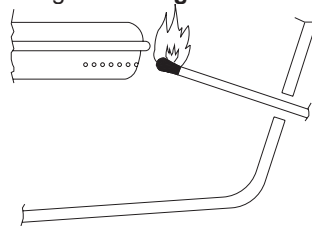

Figure 21
4. Insert a burning long wooden match through the lighter hole on either side of the grill. **See Figure 21.**